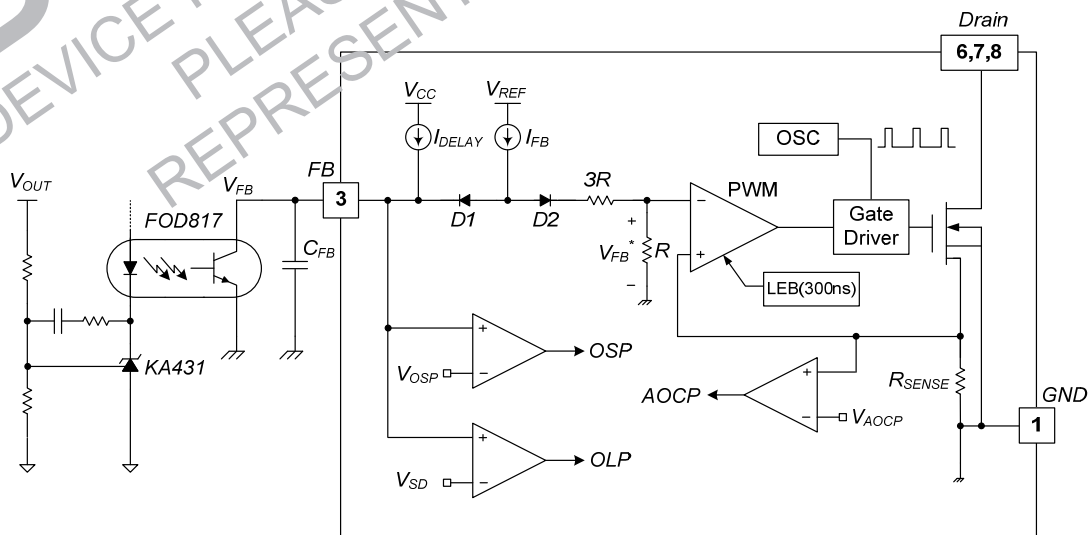

Figure 20. Pulse Width Modulation Circuit
3. Feedback Control: This device employs Current-Mode control, as shown in Figure 20. An opto-coupler (such as the FOD817) and shunt regulator (such as the KA431) are typically used to implement the feedback network. Comparing the feedback voltage with the voltage across the R_{SENSE} resistor makes it possible to control the switching duty cycle. When the reference pin voltage of the shunt regulator exceeds the internal reference voltage of 2.5V, the opto-coupler LED current increases, pulling down the feedback voltage and reducing drain current. This typically occurs when the input voltage is increased or the output load is decreased.
3.1 Pulse-by-Pulse Current Limit: Because Current-Mode control is employed, the peak current through the SenseFET is limited by the inverting input of PWM comparator (V_{FB}) as shown in Figure 20. Assuming that the 90µA current source flows only through the internal resistor ($3R$, R_{SENSE}), the cathode voltage of diode D2 is about 0.8V. Since D1 is blocked when the feedback voltage (V_{FB}) exceeds 2.8V, the maximum voltage of the cathode of D2 is clamped at this voltage; therefore, the peak value of the current through the SenseFET is limited.